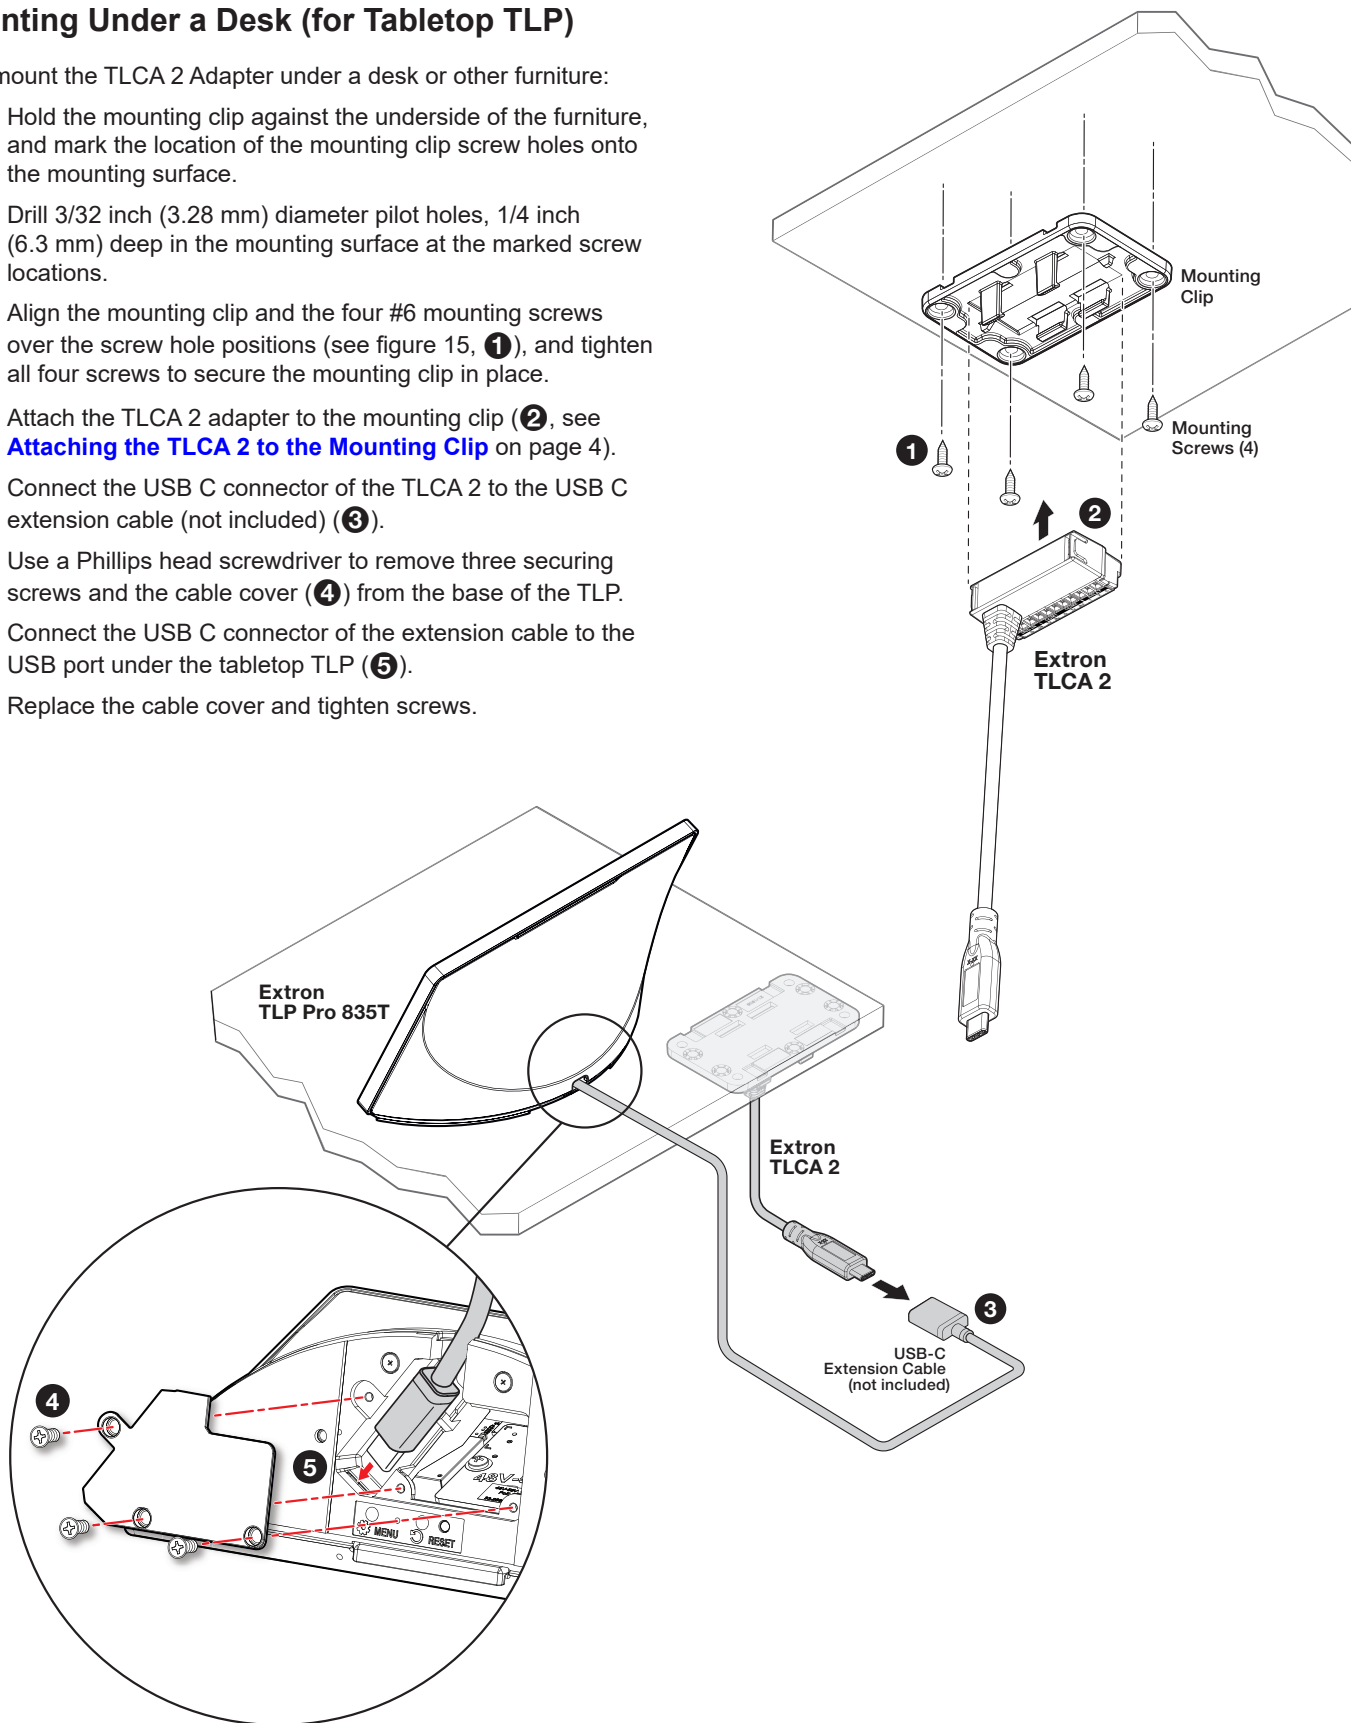

Figure 15. Mounting Under A Desk (Tabletop Tlp With USB C Extension Cable)
3. Align the mounting clip and the four #6 mounting screws over the screw hole positions (see figure 15, **1**), and tighten all four screws to secure the mounting clip in place.